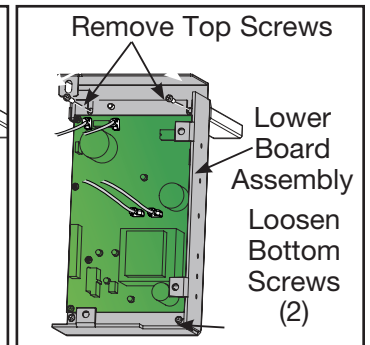

Figure 10
C. Using a Phillips screwdriver, loosen or remove the top two screws from the lower board assembly and loosen the bottom two screws. See Figure 10.